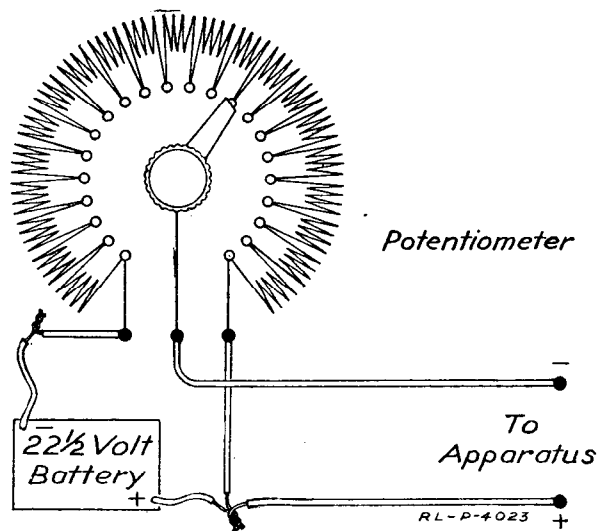

Fig. 15.—Method of connecting a potentiometer.
Another method of connecting resistance in a circuit is shown in Fig. 15. The resistor when used in this manner is called a *potentiometer*. With the connections shown, it is possible to obtain any voltage desired from zero up to the full voltage of the battery. The potentiometer is similar in construction to the rotary type of rheostat. The resistance wire of the potentiometer is much greater than that of the rheostat. This high resistance is necessary due to the fact that the wire is connected directly across the terminals of the battery. As shown in Fig. 15, the resistance winding of the potentiometer is connected directly across the 22½-volt battery. The switch arm is connected to one terminal of the apparatus to be used while the other terminal is connected to one side of the battery. By turning the switch arm the voltage delivered to the terminal of the apparatus is varied accordingly.
(12) *Why could not a potentiometer, used as in Fig. 15, be constructed with a low resistance similar to a rheostat?*